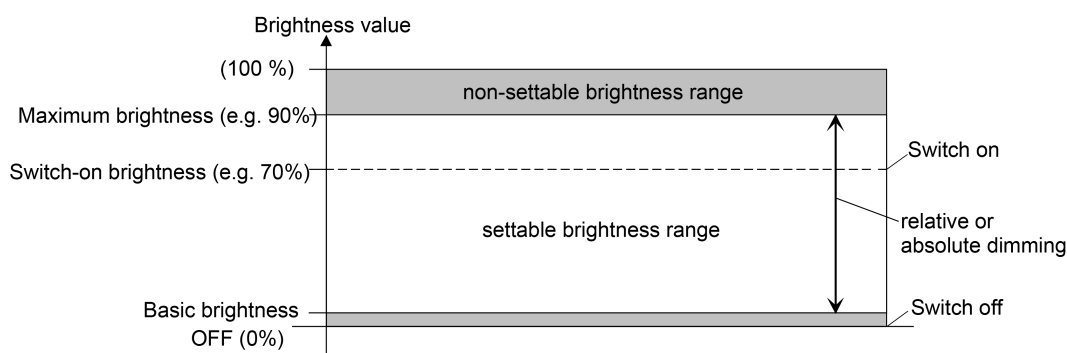

Figure 12: Example of a brightness range with basic brightness
- Definition of the lower brightness limit with basic brightness (Figure 12):